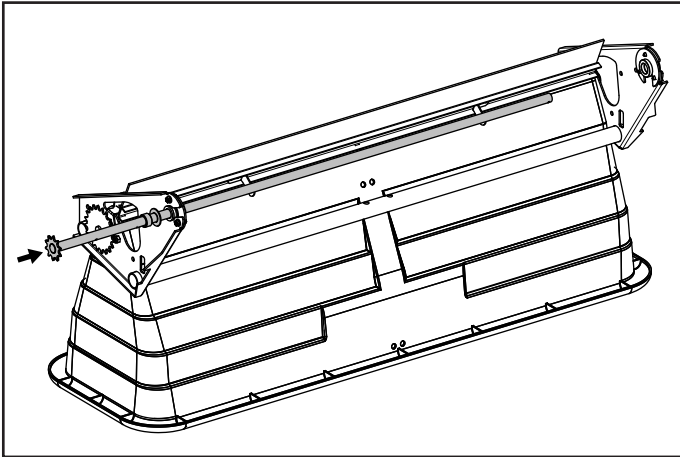

FIGURE 5
6. Assemble the axle through the end of the spreader frame that contains a pre-assembled sprocket. See figure 5.